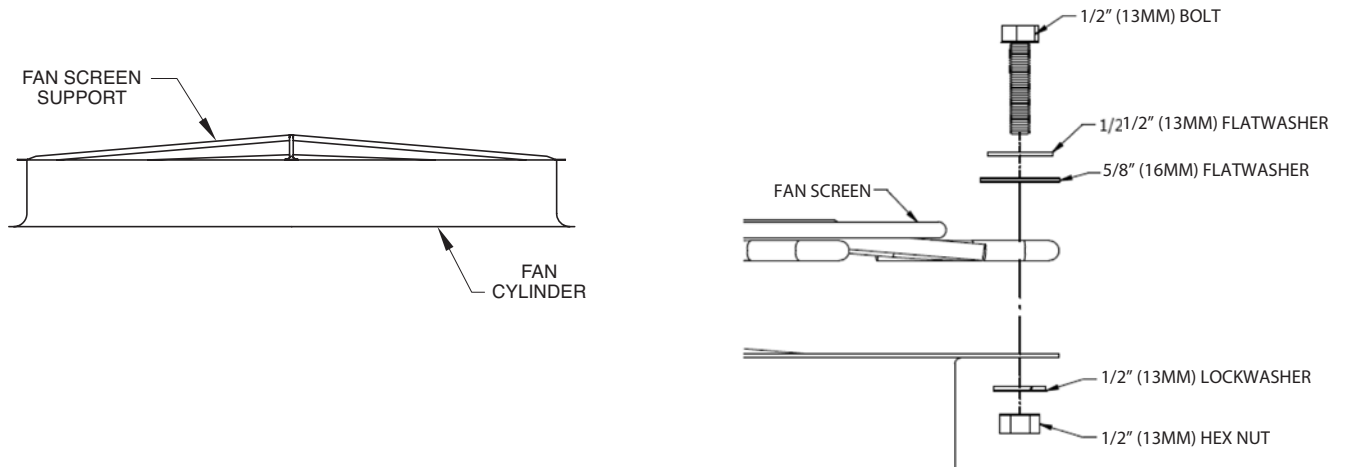

Figure 23 - Fan Screen Support & Fan Screen installation
1. Set the fan screen support across the top of the fan cylinder as shown in Figure 23.
4. At each hole, attach the fan screen to the fan cylinder as shown in Figure 23. At the four* points where the fan screen support meets the cylinder, bolt the support to the cylinder together with the fan screen.